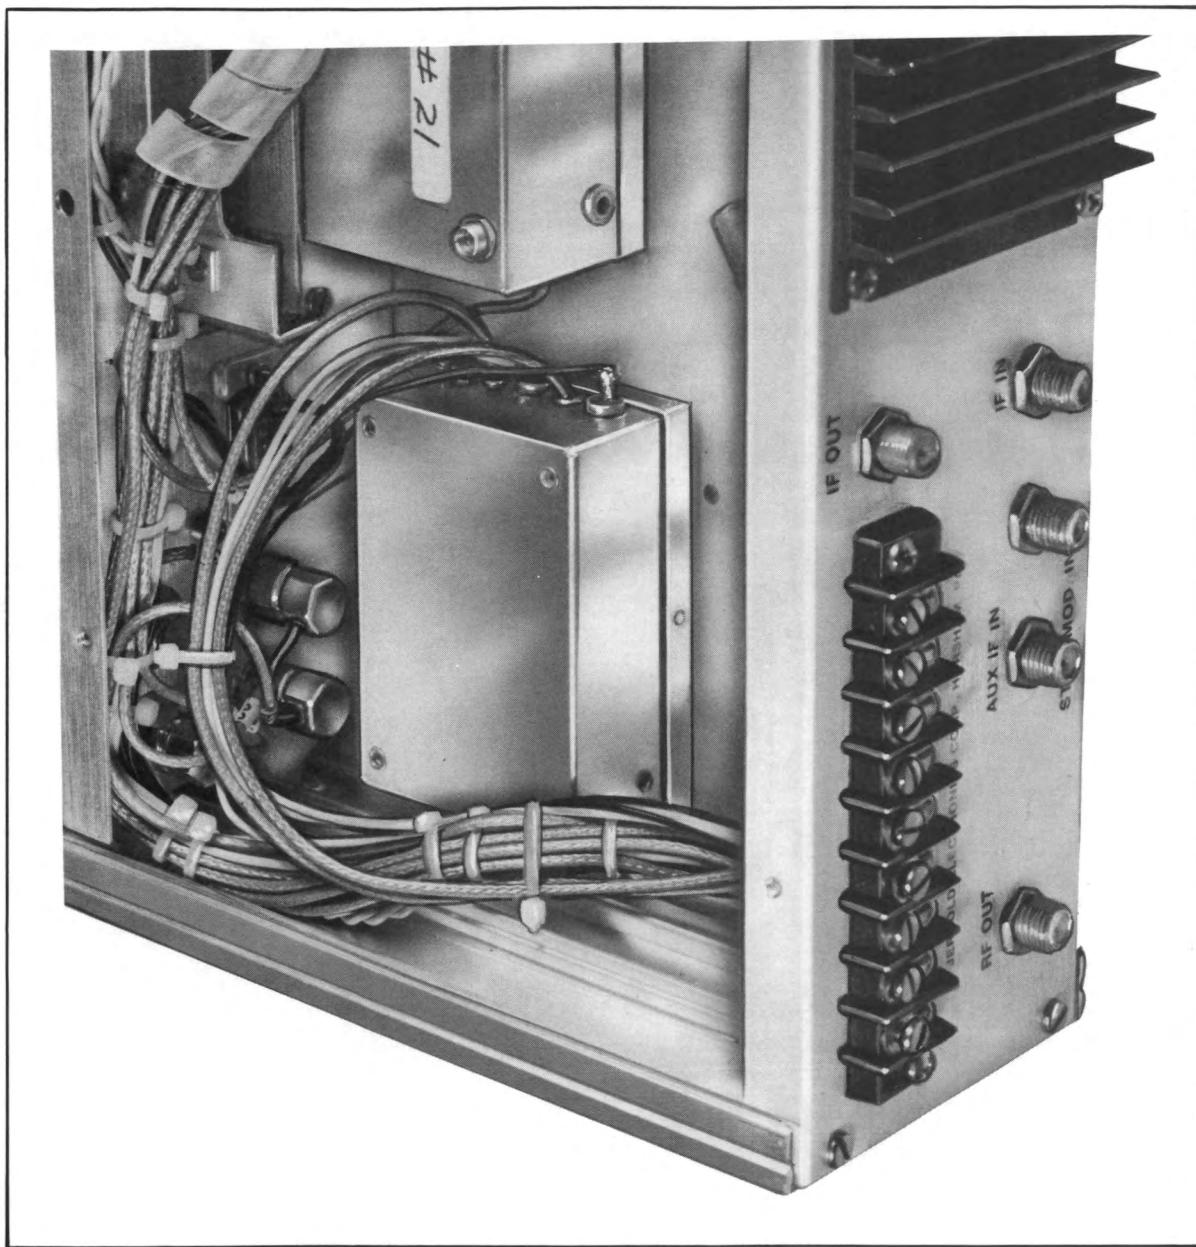

Fig. 9 CIS MODULE INSTALLED
1.2.3 Stand the Processor on its side and install the CIS module, cover down - so that the mounting nuts of the CIS will register with the associated holes in the bottom of the Processor chassis; then secure the CIS with the two mounting screws, shipped with the CIS, from the bottom of the Processor chassis; see Fig. 9.